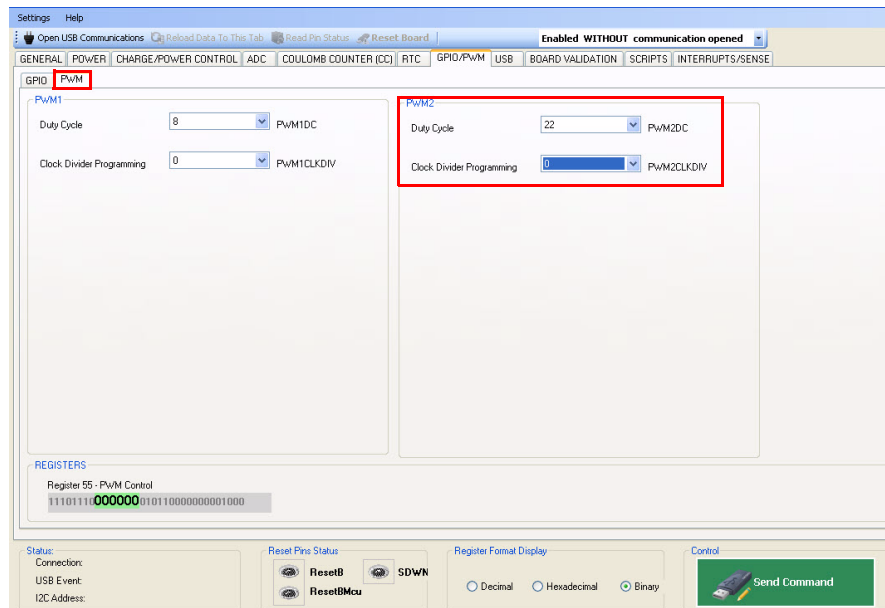

Figure 32. PWM Tab Configuration Window
3. Click the **PWM** sub-tab. This tab contains all the controls of the bits that configure the PWM pins of the MC34708 as shown in Figure 32.